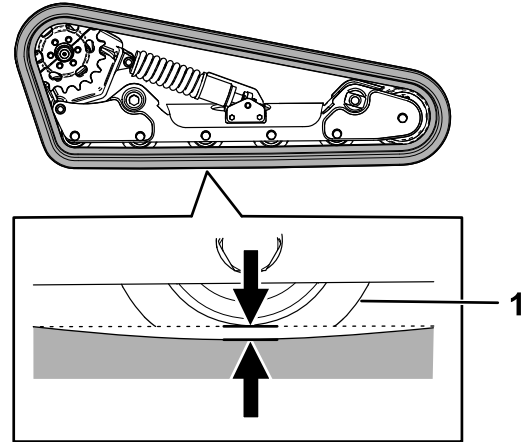

Figure 56
Lift/support 1 side of the machine and using the weight of the track, verify that the gap between the bottom of the lip of the road wheel and the track is 13 mm (1/2 inch) as shown in Figure 56. If it is not, adjust the track tension using the following procedure.
5. Using a 1/2 inch drive ratchet, turn the tensioning screw until the track deflection is 13 mm (1/2 inch) as shown in Figure 56.
9. Verify that the track deflection is 13 mm (1/2 inch) as shown in Figure 56. Adjust if necessary.
20. Using a 1/2 inch drive ratchet, turn the tensioning screw counter-clockwise until the track deflection is 12.7 mm (1/2 inch) as shown in Figure 56.
25. Verify that the track deflection is 12.7 mm (1/2 inch) as shown in Figure 56.